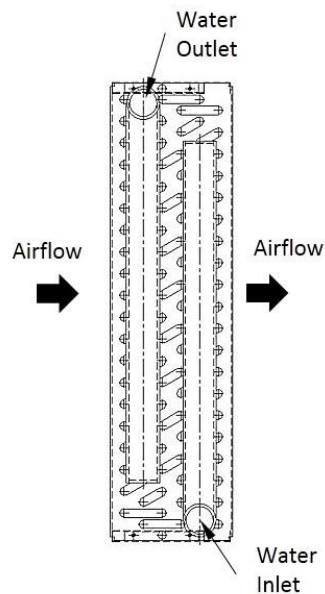

Fig.5
- The outer pipe must be connected to the coil such that the water flowing into the coil is at the end where the air leaves the coil (Fig.5). This will give counterflow and the greatest heat transfer.